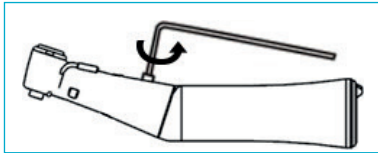

Fig. 8
- Unscrew the screw on head with hex wrench. (Figure 8)